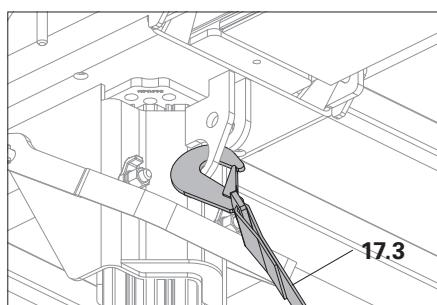
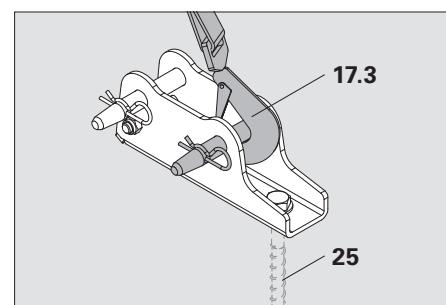

Fig. A4.05a
Fig. A4.05b
- Tension Belt (17.3) and Base Plate-2 for RS (18), e.g. Tension Belt STLB. (Fig. A4.05a + Fig. A4.05b)